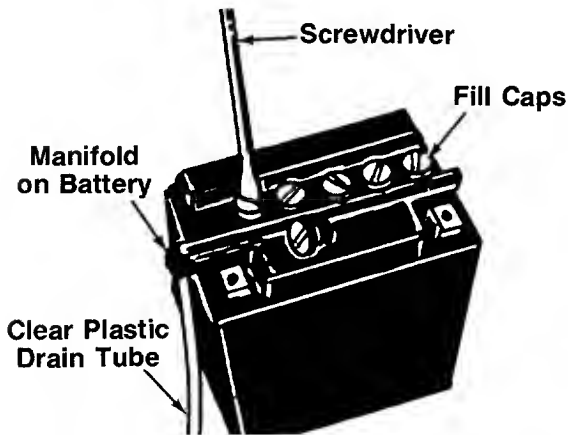

FIGURE 13.
- Place one end of clear plastic drain tube on manifold of battery. See figure 13.
- Remove the six fill caps from the top of the battery with a screwdriver. Care should be taken not to damage the fill caps. See figure 13.